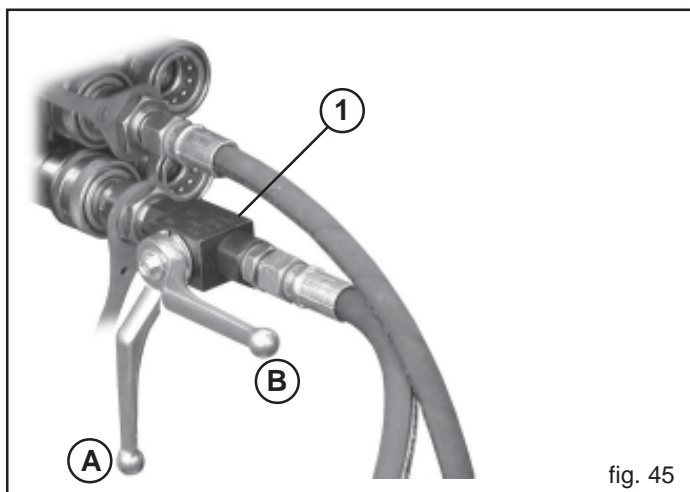

fig. 45
The row marker device has a valve that actuates the two arms alternately, so reducing use to a single tractor hydraulic distributor. The hydraulic delivery pipe has a tap (1, Fig. 45) that is necessary for excluding the operation of the row marker. **During road transport of the planter, the tap lever must be put in position A (Fig. 45), to prevent accidental opening of the row marker;** this lever is in position B while working.
- 5) Before actuating the row marker device, rest the planter on the ground and put the tap lever in position (B) Fig. 45.
- 8) Put the tap lever in position (A) Fig. 45.